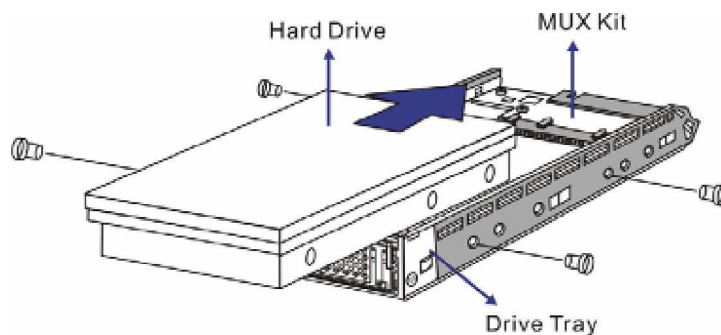

Figure 2-3: Installing a Hard Drive with MUX Kit
Step 2. Connect the drive to the MUX kit by sliding it towards the rear of the drive tray until a solid connection between the drive connector and the MUX kit connector has been made. (See **Figure 2-3**)